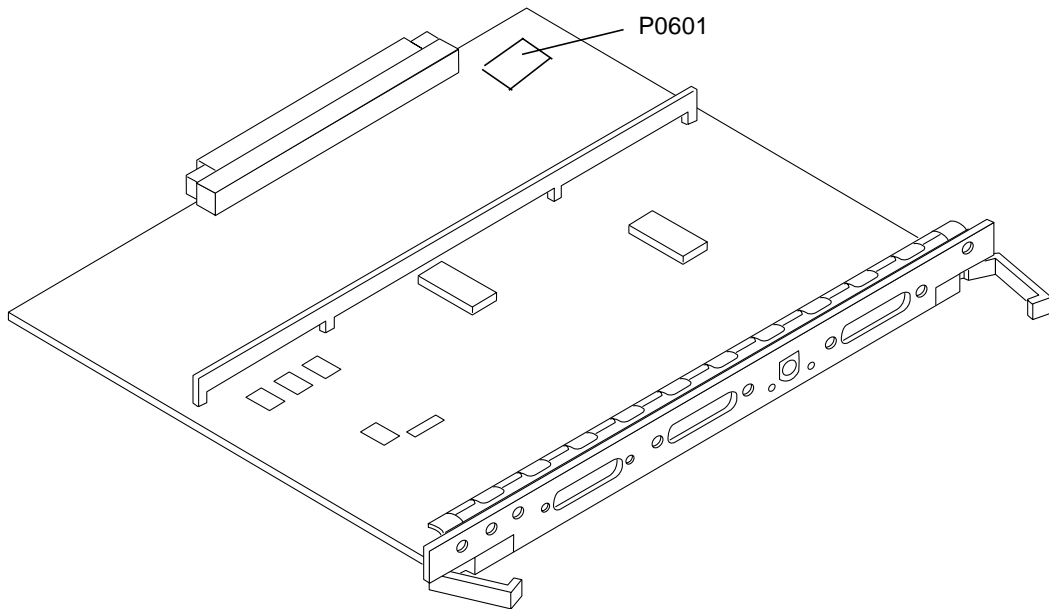

FIGURE 5-3 Clock Board and Jumper P0601 Jumper Location
3. Locate the P0601 jumper location (FIGURE 5-3) on the clock board.